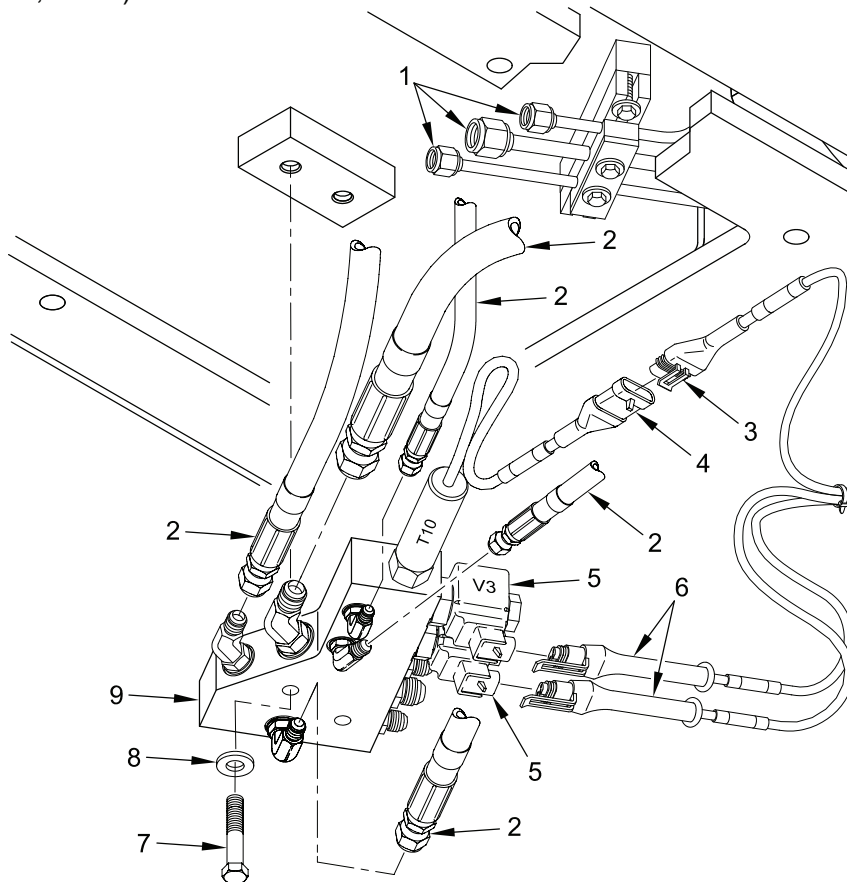

Figure 4. Installing HDC Forward Left Manifold Assembly
1. Install left forward manifold (Figure 4, item 9) using two flat washers (Figure 4, item 8) and two new self-locking screws (Figure 4, item 7).
2. Connect wiring harness W3 connector P30 (Figure 4, item 3) to transducer T10 (Figure 4, item 4) on left forward manifold (Figure 4, item 9).
3. Connect wiring harness W3 connectors P3 and P9 (Figure 4, item 6) to two two-way (NO) valves V3 and V9 (Figure 4, item 5) on left forward manifold (Figure 4, item 9).
5. Connect five hydraulic hoses (Figure 4, item 2) and three hydraulic tubes (Figure 4, item 1) to left forward manifold (Figure 4, item 9).